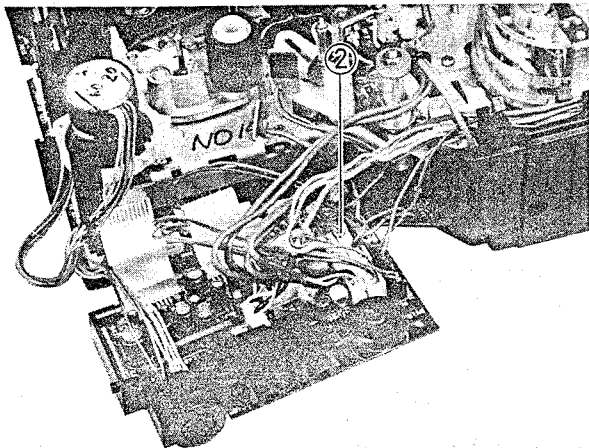

Fig. 2-69 Dew Sensor Removal
Dew Sensor Removal (Figs. 2-69, 2-70)
2. Disconnect connector CN120. (See Fig. 2-69)